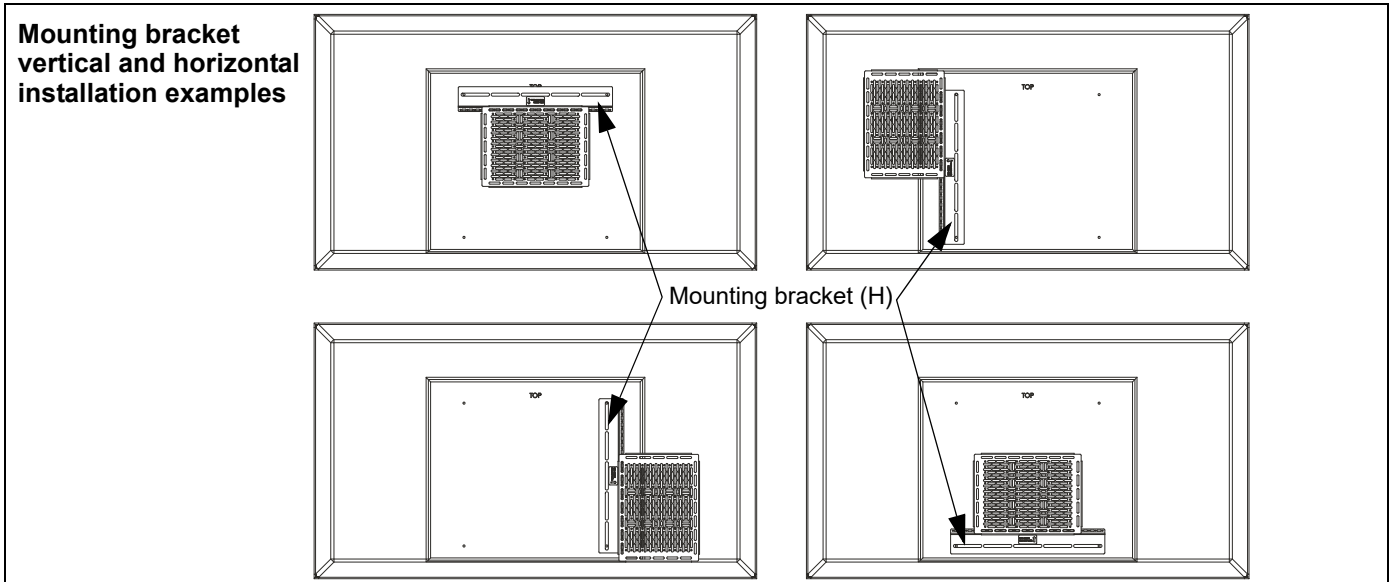

Figure 1
NOTE: The mounting bracket (H) may be installed using VESA holes between display mount interface brackets and the display in vertical or horizontal positions. (See Figure 1)